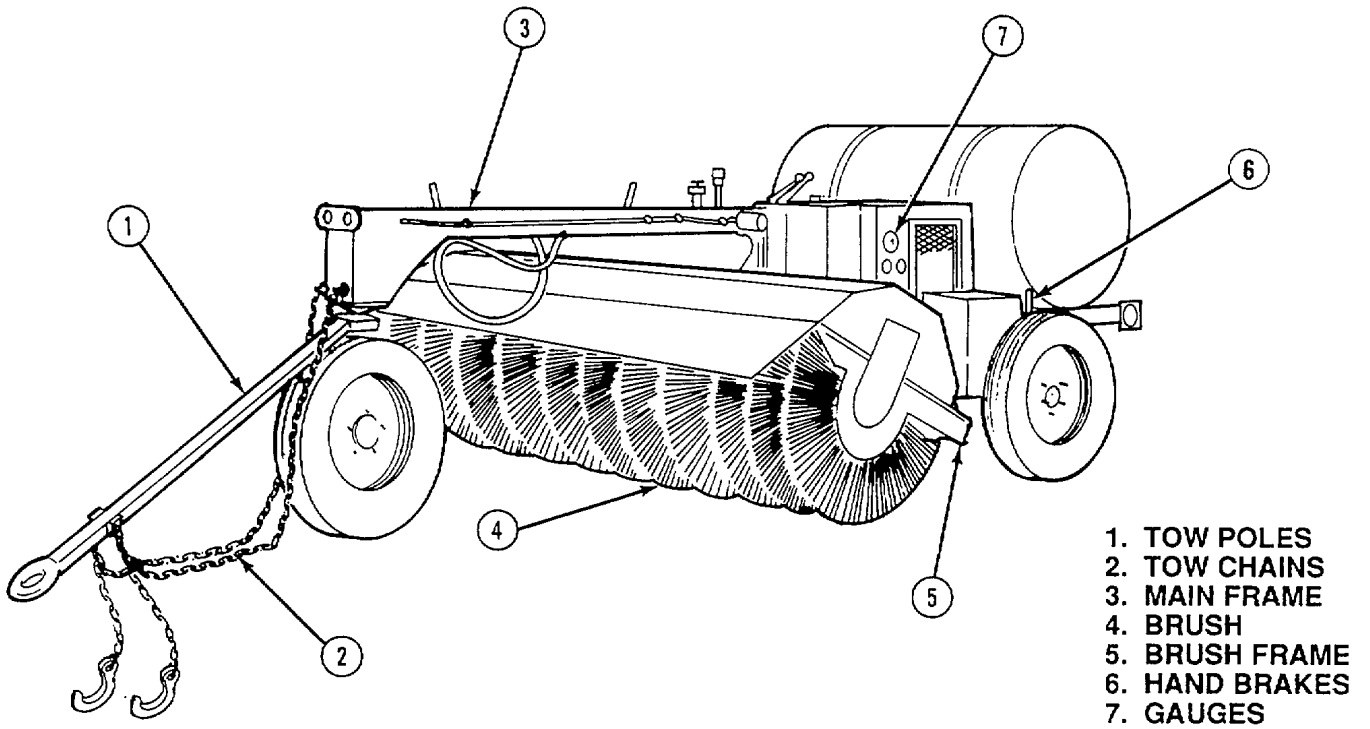

Figure 1-1. Rotary Towed Sweeper 53MH - Left Front View
b. Model Number and Equipment Name. Rotary Towed Sweeper, Model 53MH, NSN 3825-01-314-2926, produced by M-B Company, Inc. of Wisconsin. (See figures 1-1 and 1-2).